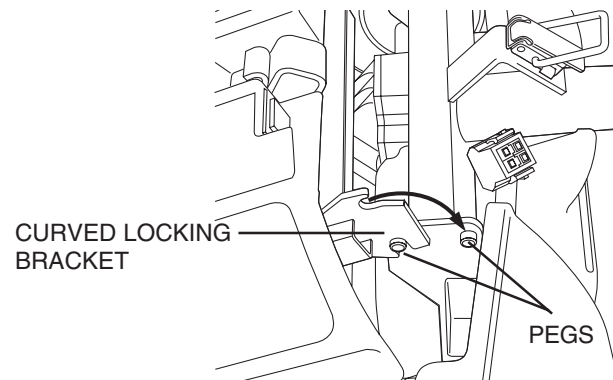

Figure 17. Frame Lockup
4. Lift the front section up until the lower pegs are no longer in the curved locking brackets. See figure 17.
2. Align the lower curved locking brackets of the front section with the corresponding pegs on the front of the rear section. See figure 17.